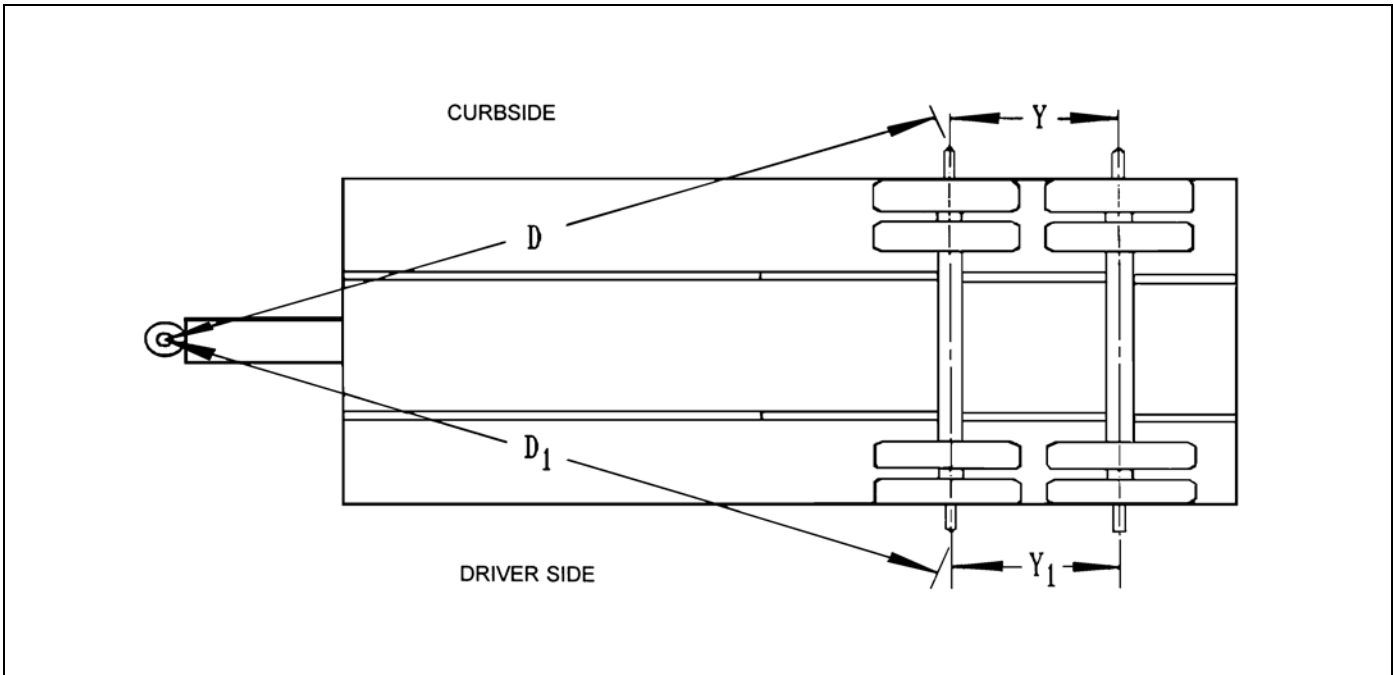

Figure 4-7: Checking Axle Alignment
4. Measure (D) from the plumb bob to the center point on one end of the axle. Record this measurement (See Figure 4-7.)
5. Measure (D1) to the other end of the axle in the same manner as in **step 4**. Record this measurement (See Figure 4-7.)